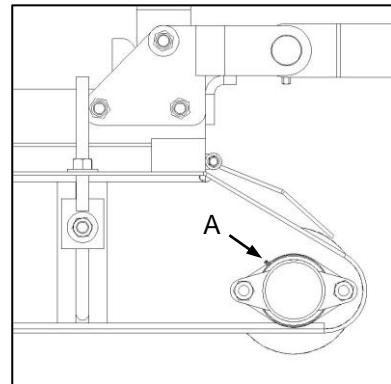

Fig. 7
- ✓ Apply grease to the bearing units (Fig. 7-A).
- ✓ Ghries die koeëllaereenhede (Fig. 7-A).